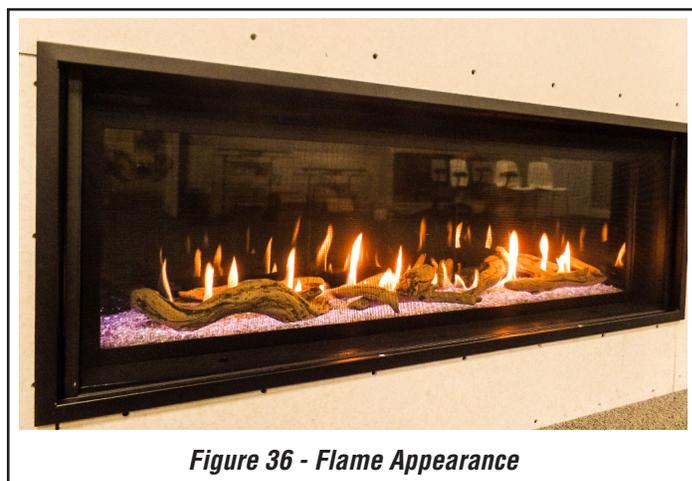

Figure 36 - Flame Appearance
3. Allow the burner to operate for at least thirty (30) minutes while observing the flame continuously to ensure that the proper flame appearance is achieved (Figure 36). If the following conditions are present, adjust accordingly.